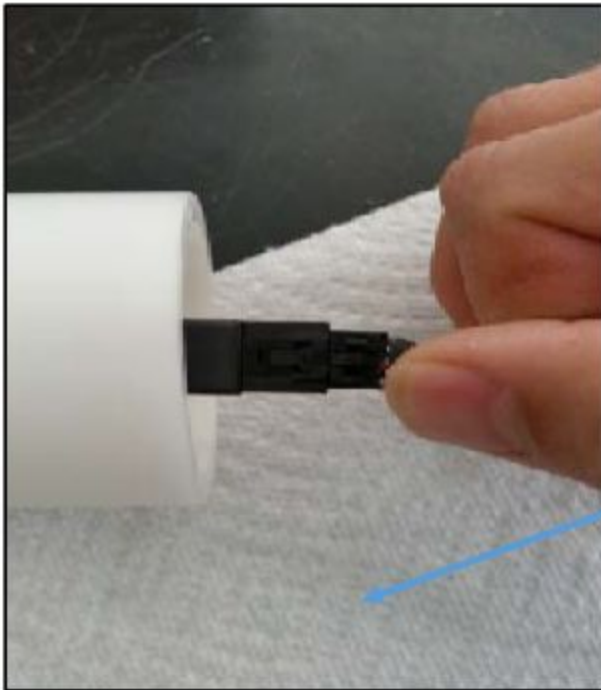

Figure 3
- Disconnect the Hydrophone and battery connectors by pressing the release tab and pulling gently (Figure 3).